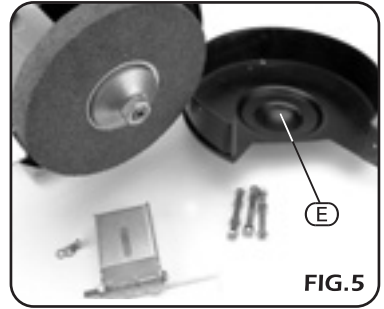

FIG.5
- **REPLACING THE GRINDING WHEEL (Fig.5):**